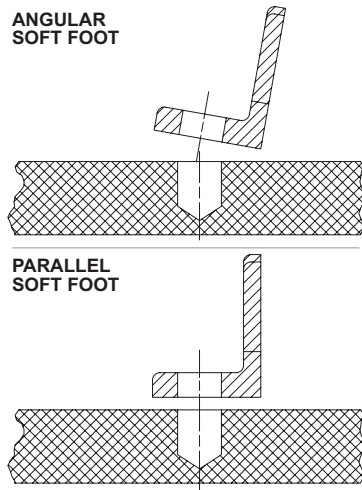

Figure 4-2 – Illustrations of Soft Foot
2. Check each foot for gaps between the foot and base (soft foot). Shim as necessary to fill the gap within 0.002 in. (0.05 mm). Figure 4-2 shows the two most common types of soft foot conditions. If either type is present at a measurement of more than 0.003 in. (0.076 mm), the pump may fail prematurely.